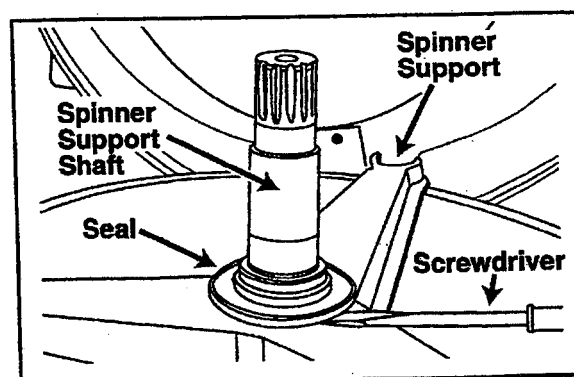

Figure 2-49
3. With a flat bladed screwdriver, pry the seal carefully off the tub support shaft (Figure 2-49).
5. Position the spacer, replacement rubber seal and steel seal washer into the outer tub bearing area (Figure 2-49).